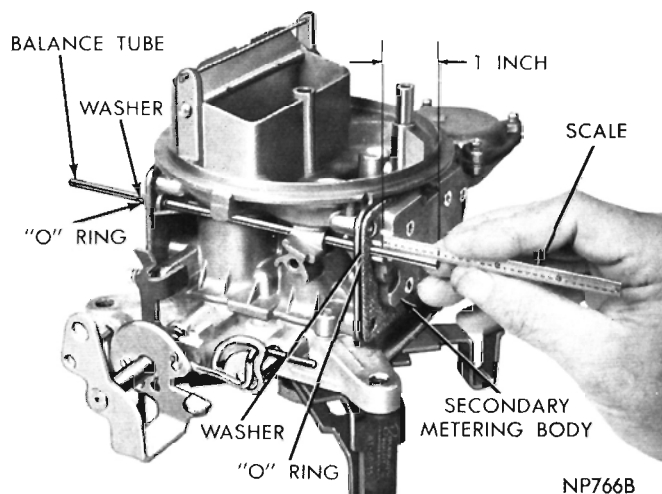

Fig. 14—Positioning Balance Tube
(5) Position balance tube so that only 1 inch extends beyond the secondary metering body (Fig. 14). (Use a 6 inch ruler for this measurement.)
(6) Place a new gasket over primary metering body aligning pin. (Rear) Carefully slide metering body over balance tube and down into position against main body.
(7) Slide a new gasket over metering body alignment studs and carefully position against body.
(8) Carefully install primary fuel bowl over balance